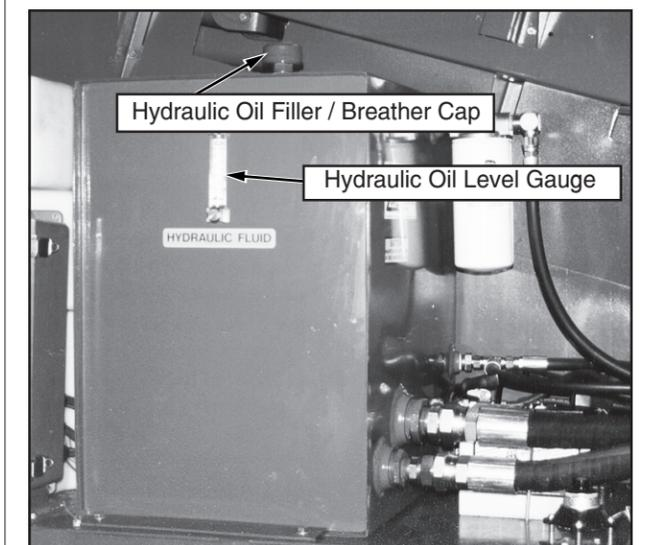

Figure 12: Hydraulic Oil Tank
1. Open left turret cover and check oil level at sight gauge with the boom stowed and retracted. Engine running or stopped. (see figure 12)